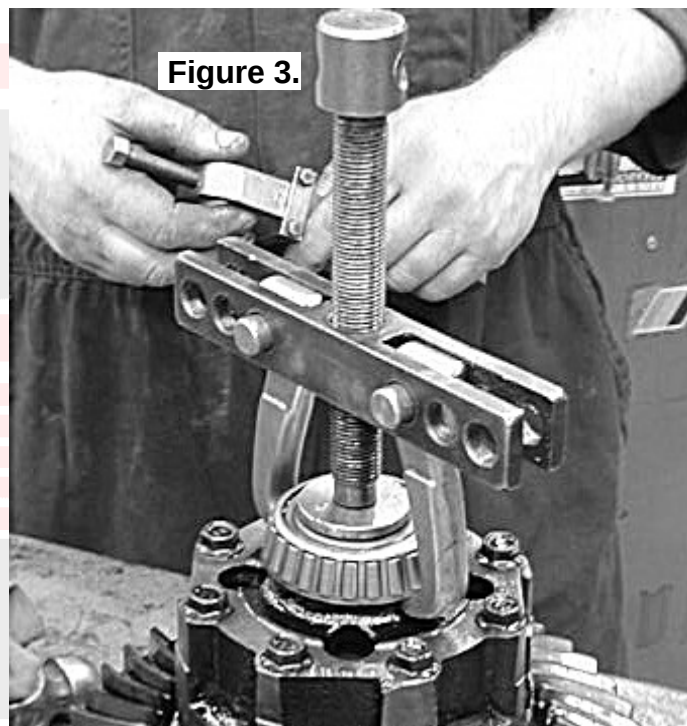

Figure 3.
- ☐ Remove the tapered roller bearings from the differential carrier with a bearing puller. (Fig.3.)